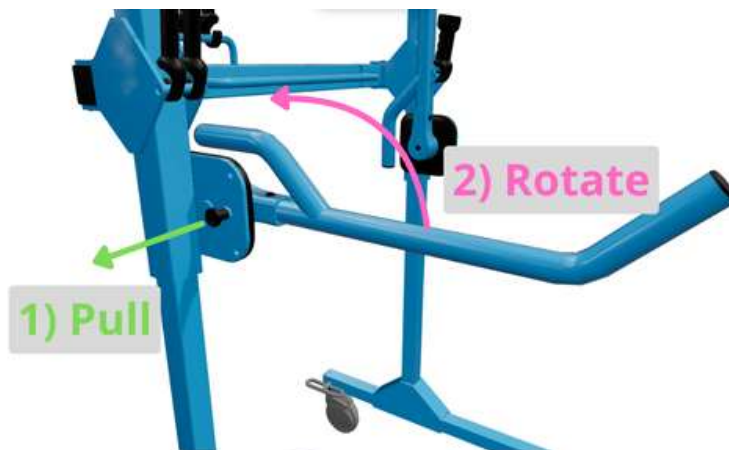

Figure 9: Handrail lifting mechanism.
- If required, the handrails can be raised to avoid their use (Fig.9).